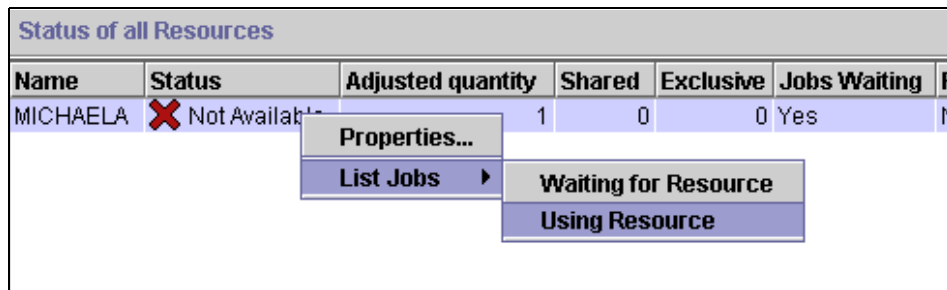

Figure 135. Selecting Jobs Waiting for Resource
10. Click the right mouse button on the selected resource line, and select **List Jobs => Waiting for Resource** from the pull-down menus as shown in Figure 135.